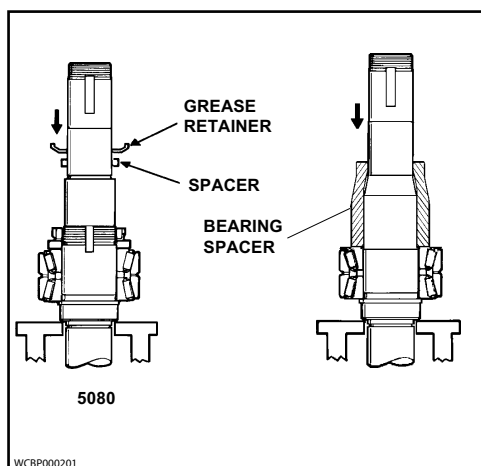

Figure 71 - Install Bearing Spacer
- Place the shaft upright in an arbor press with gear end up. Install bearing spacer on all model shafts, as shown in Figure 71.